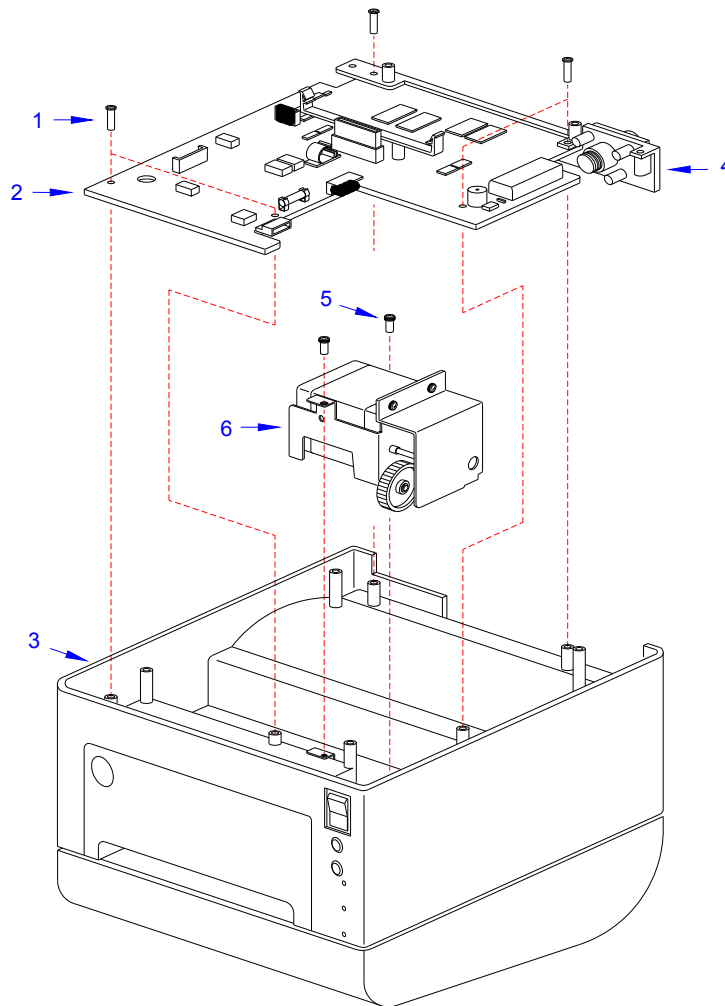
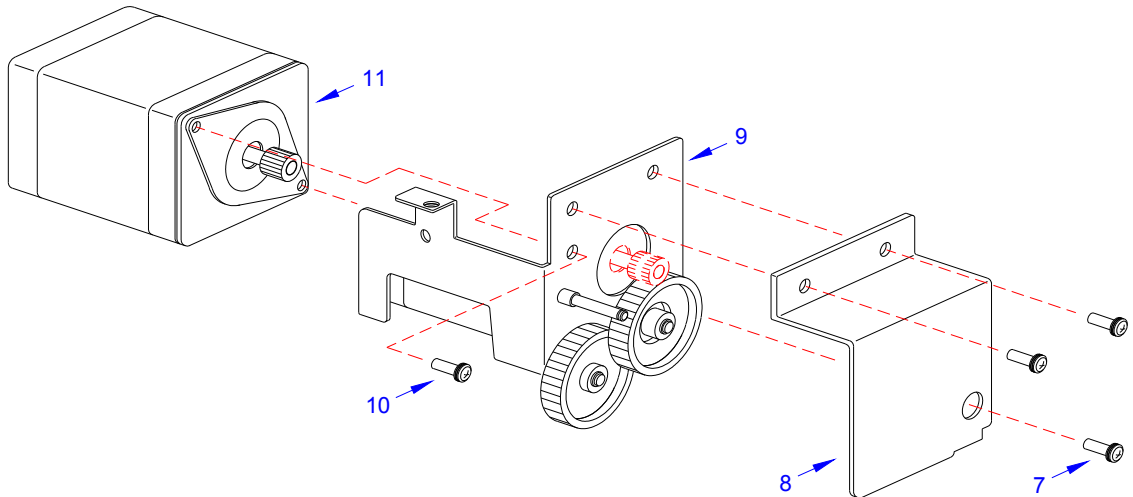

Figure 4-10a, Drive Motor Replacement
Figure 4-10b, Drive Motor Replacement
- 3 Remove the five screws (1) (See Figure 4-10a) that secure the main circuit board (2) to the printer (3).
- 4 Disconnect all wiring harnesses from the defective main circuit board (2).
- 5 Remove the circuit board (2), along with the interface cover (4), from the printer (3), and set it aside.
- 6 Remove the two screws (5) that secure the drive train (6) to the printer (3).
- 7 Remove the drive train (6) from the printer (3) and disconnect the motor's wiring harness.
- 8 Remove the three screws (7) (See Figure 4-10b) that secure the gear cover (8) to the motor bracket (9).
- 9 Remove the screw (10) that secures the defective motor (11) to the motor bracket (9).
- 10 Install the replacement motor (11) to the motor bracket (9) using one screw (10).
- 11 Attach the gear cover (8) to the motor bracket (9) using three screws (7).
- 12 Insert the drive train (6) (See Figure 4-10a) into the printer (3) using two screws (5).
- 13 Connect the motor's wiring harness to main circuit board (2).
- 14 Apply circuit board (2), along with interface cover (4), to printer (3), and secure using five screws (1).
- 15 Reconnect all the appropriate wiring harnesses to the main circuit board (2).